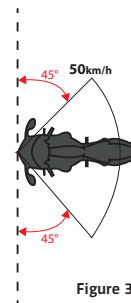

Figure 3
Tech-Air® 3 System is expected to inflate and protect before the user's covered body areas contact an obstacle, in Crashes Where a Motorcycle Strikes a Vehicle or Obstacle (Figure 3) according to the following conditions:
Impact Angle (Fig 3)	From 45° to 135°
**IMPORTANT!** Figure 3 outlines the Envelope of Protection where the Tech-Air® 3 System is expected to inflate before the user's body covered areas contact an obstacle. At speeds above 50km/h (31 mph) or outside the declared angle, the System is expected to deploy as well, however, outside the Envelope of Protection the System may not be fully inflated before there is contact between the obstacle and the user's covered areas.